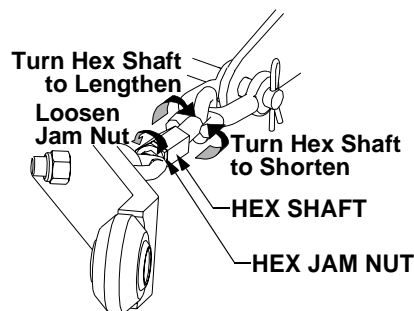

Figure 30
- The length of the hitch chains, attached to each lower hitch link, limit the side-to-side movement of the lower links. Loosen the jam nut and turn the chain's hex shaft as shown in Figure 30 to adjust the length of the hitch chain. Tighten the jam nut after adjusting.